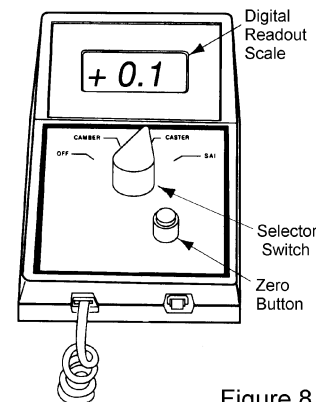

Figure 8
- 3) Set the selector to CASTER and press the rocker switch to ON. Press the Zero Button. (See Fig. 8)